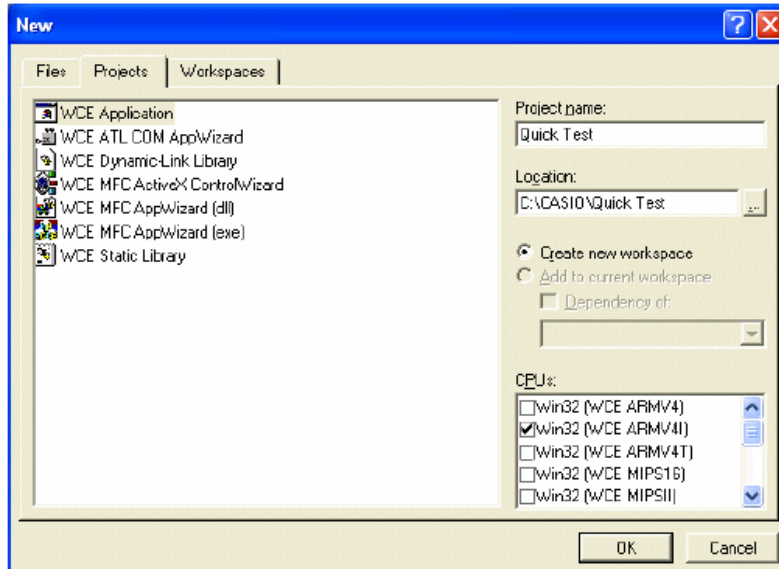

Figure 8.1
3. Highlight **WCE Application** in Projects tab (see Figure 8.1).